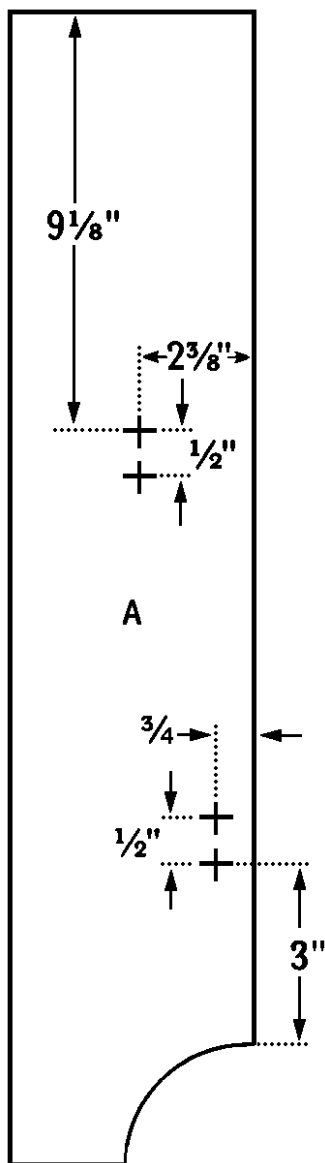
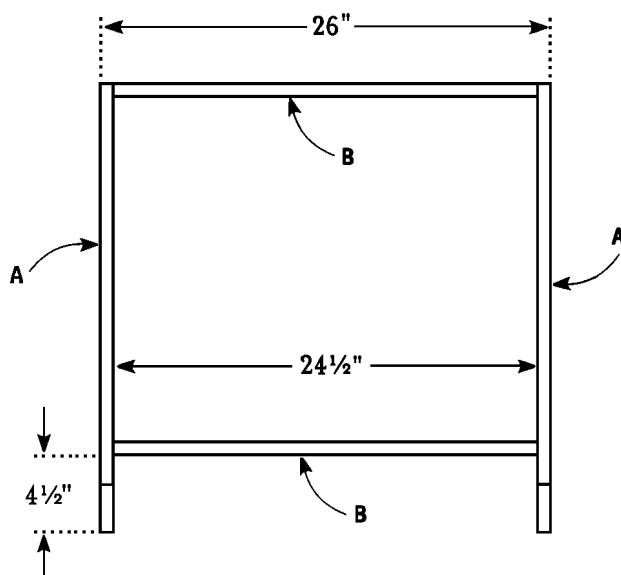

Figure 2
Figure 3
3. Using *Figure 2* as a guide, mark the positions for the dowel rod holes. Using a 3/8-inch-diameter drill bit, drill into the marked spots 3/8" deep. (Placing a piece of masking tape around the bit 3/8" from the tip can do this.)
4. Cut two Rack Top/Bottom (B) from 1 x 6 pine, each measuring 24-1/2 inches.
5. Place the two Rack Sides (A) on edge on a level surface parallel to each other and 24-1/2 inches apart. As shown in *Figure 3*, place one Rack Top/Bottom (B) perpendicular between the Rack Sides (A) 4-1/2 inches up from the cut ends of the Rack Sides (A). Place the remaining Top/Bottom between the Rack Sides (A). Apply glue to the meeting surfaces, and screw through the face of the Rack Sides (A) into the ends of the Rack Top/Bottoms (B), using three 1-5/8" screws on each side.
6. Cut one Rack Middle (C) from 1 x 4 pine, measuring 24-1/2 inches long
7. Place the Rack Middle (C) perpendicular between the Rack Sides (A) 13 inches above the cut ends of the Rack Sides (A) and screw in place.
8. Cut one Rack Ledge (D) from 1 x 8 pine, measuring 28 inches.